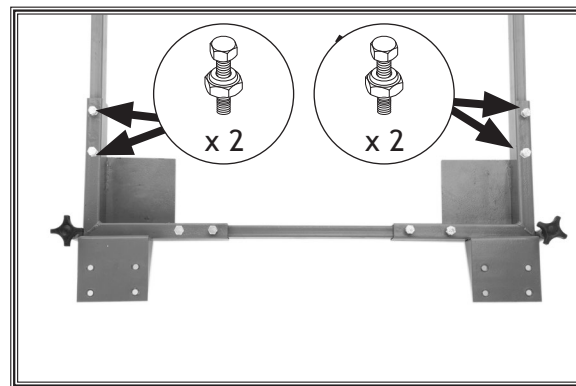

Figure 20. Rails fastened to brackets. (Machine removed from assembly for clarity.)
7. Slide the other ends of the rails into the corner brackets from **Step 6**. Secure each end of the rails to the corner brackets with (2) M8-1.25 x 25 hex bolt and 8mm lock nut assemblies (see **Figure 20**).